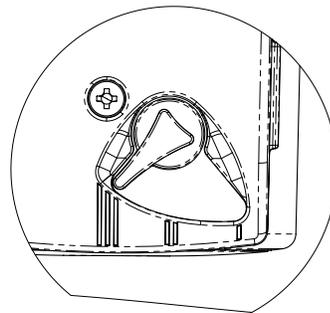

Figure 15-2: Pump speed setting
5. Verify boiler and system are full of water and pressurized. Verify pump speed is set to 3. (Figure 15-2) Pump located on right side of boiler.